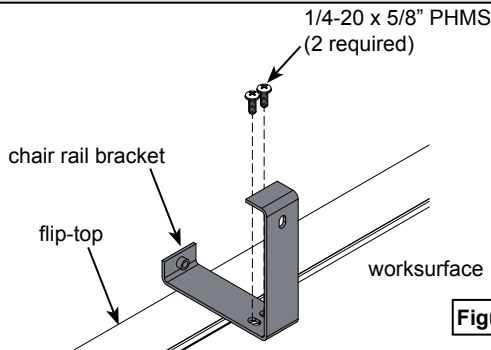

Figure 1B
Orient and attach the chair rail bracket to the center of the work surface as shown in **Figure 1B** with (2) 1/4-20 x 5/8" PHM screws.